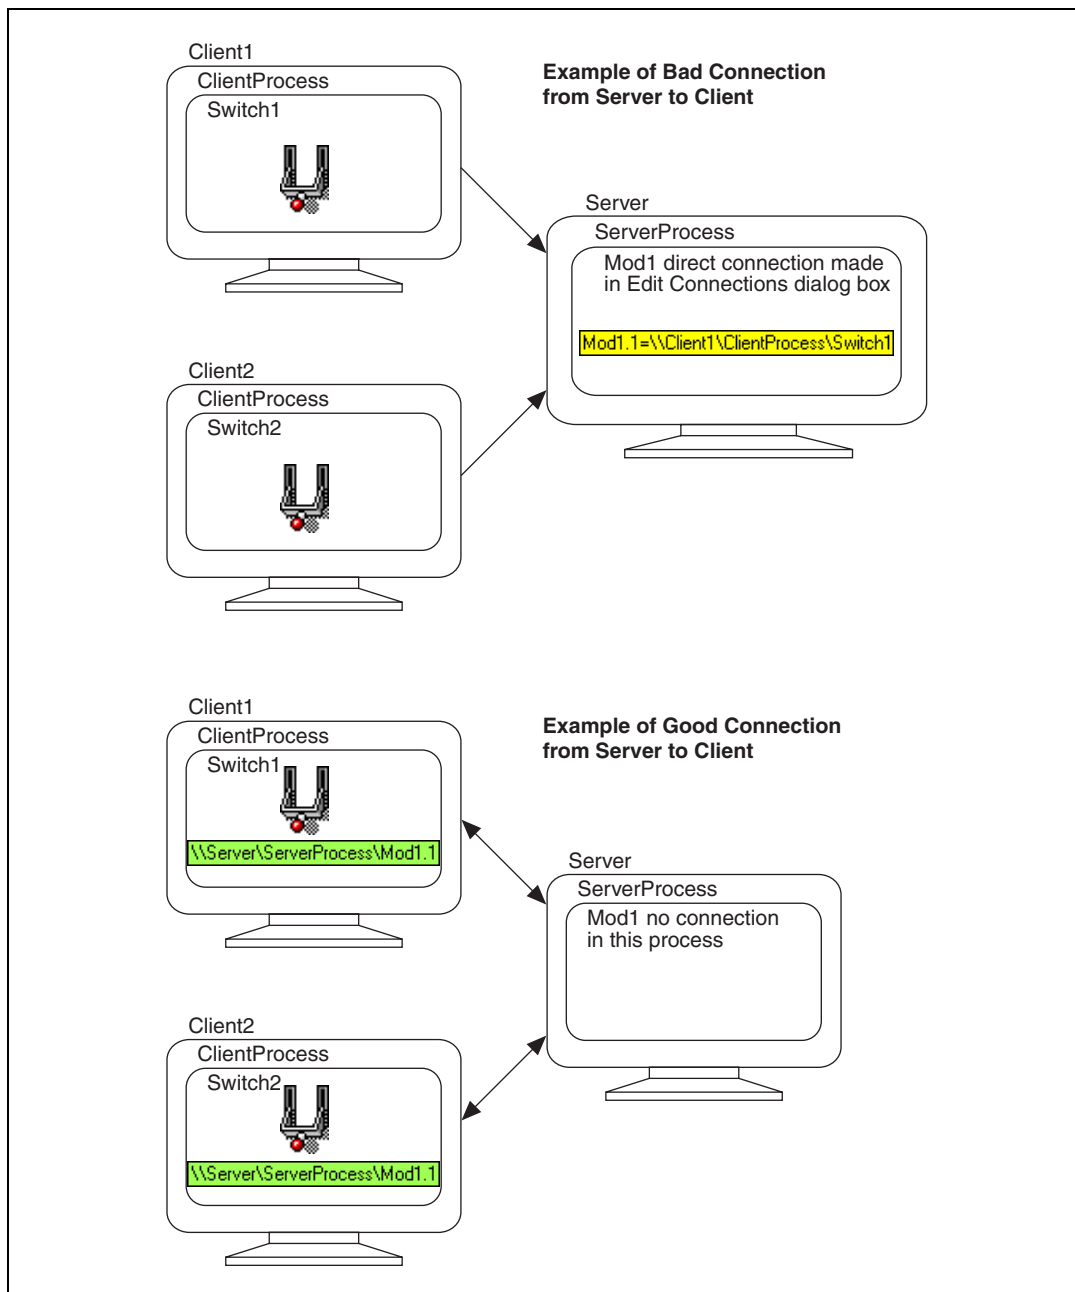

Figure 5-1. Examples of Bad and Good Connection from Server to Client
All connections from a client to a server should be made so that changes in the server are read back to client controls properly. This requires the sort of two-way data exchange created by a remote source connection. For example, assume you have a Modbus object (Mod1) in the server process and a Switch (Switch1) in the client process. Now suppose you use the Edit connections dialog box to make the following connection in the server, as shown in the top of Figure 5-1:
- In this scenario, you could not use a switch in any other client process to control Mod1.1, as shown in Figure 5-1. The client switches would not be synchronized.
- In this scenario, you could not stop the Client1 process without causing problems. Server processes should run continuously, and the connection in Figure 5-1 forces the Server process to rely on the Client1 process for its Mod1.1 value.
The correct design makes a remote source connection from the switch in either client process to Mod1.1 in the Server process, as shown in the bottom of Figure 5-1.